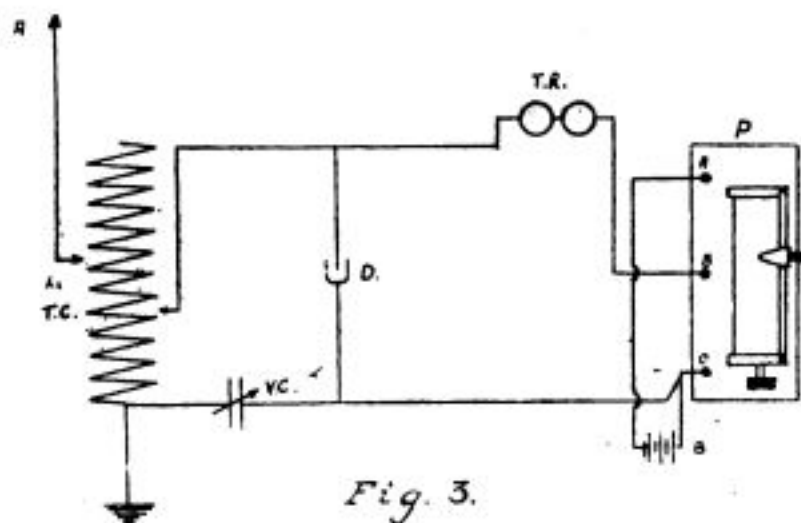

Fig. 3.
Fig. 3 shows the connections for the potentiometer as used in a wireless set.
-FIG 3-
Referring to article, "A Conductive Wireless System," in the August issue, it should be stated that in Fig. 3 the telephone receiver was omitted by mistake, and in Fig. 4 a battery of several dry cells must be used. E. E. GOURLEY.
A new form of mercury interrupter has been invented in France by M. Drault, for use with alternating currents. Such interrupters must run at the speed corresponding to the frequency of the current in order to be used to advantage, so that the current waves are cut when at their highest point. When an alternating current motor is used, this must be brought up to speed, usually by hand, so that the interrupter is not easy to work. In order to have a self-starting motor, the system shown in Fig. 3 is used. The motor armature has a commutator ( $l$ ) like a direct current armature and also the two collector rings  $m$   $n$  for use with alternating current. To start the motor from the source of alternating current, we first switch the current on to the commutator, when the motor will run, although in a defective way, and
-FIG. 3-
A tightly closed cell using a liquid is made as shown in fig. 3, using a jar *A*, a cathode *C*, and a depolarizing mass *B*. The cell is partly filled with sand, and we then pour in resin or a mixture of 80 per cent. asphalt and 20 per cent. paraffin